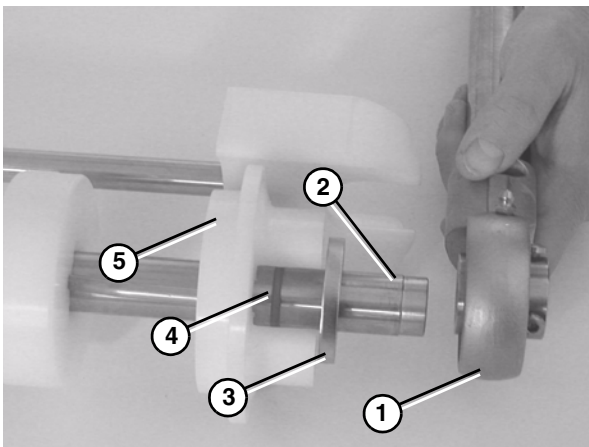

Figure 71
3. Attach flanged pucks (Figure 71, item 5), the O-rings (Figure 71, item 4), the washers (Figure 71, item 3), and the bearing shaft assemblies (Figure 71, item 1) onto the idler shaft (Figure 71, item 2).